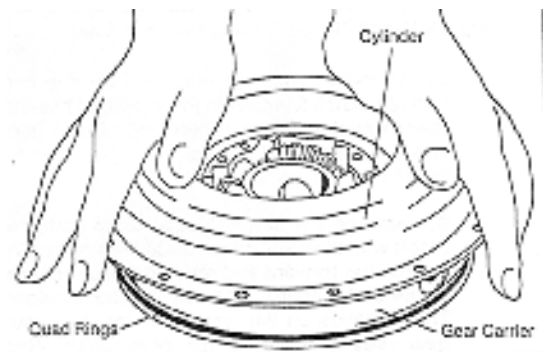

Fig. 25. Pressing Cylinder on Bevel Gear Carrier
- b). With forward side of gear carrier up. Press cylinder on by hand. (See figure 25).